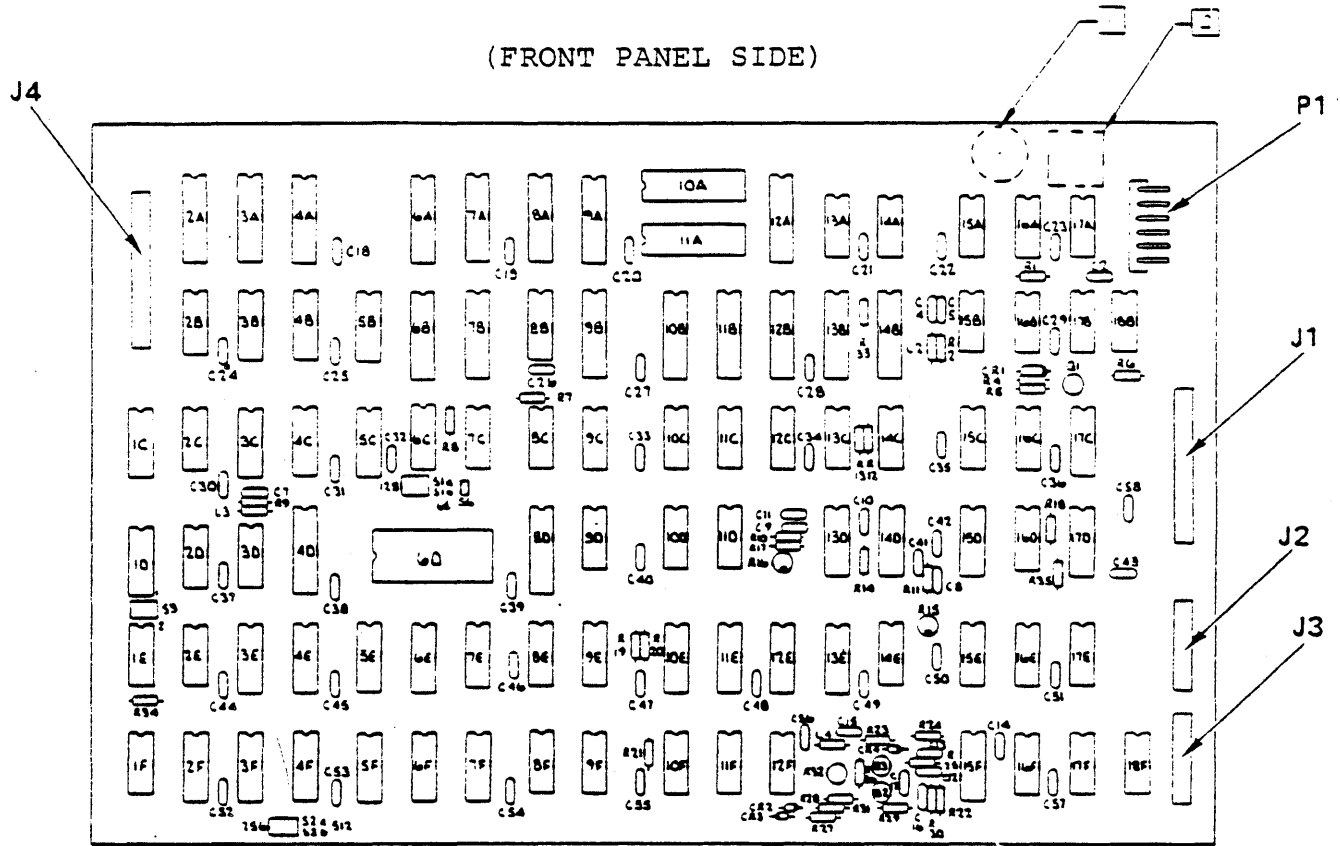

Figure 1. 5-1/4 Inch Hard Disk Controller Board Matrix Map
1. One HDC board, as shown in Figure 1.